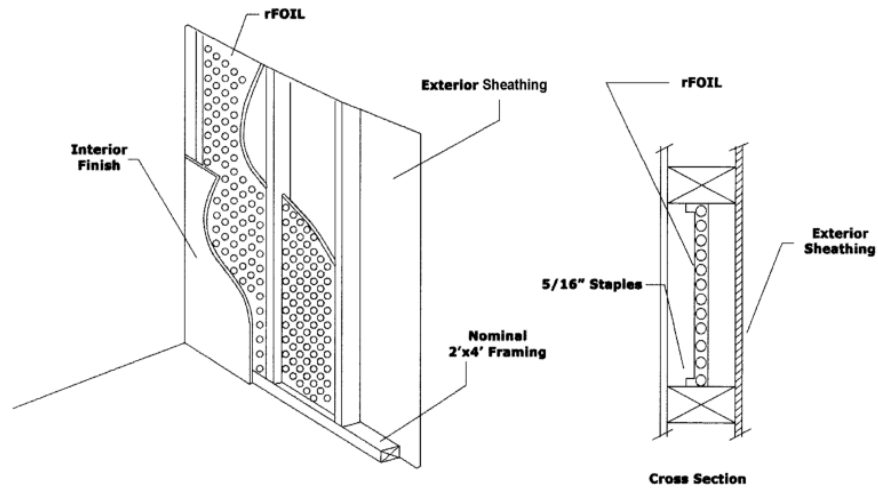

FIGURE 1—WALL CAVITY APPLICATION
4.1.2.1 Wall Cavity Application: rFOIL™ insulation is placed on the inside of the stud cavity and stapled at the midpoint of the 3¹/₂-inch (89 mm) side of 2-by-4 wood studs spaced at 16 inches (406 mm) on center. The insulation forms two ¹/₈-inch-deep (41.3 mm) air spaces within the cavity. The exterior surface is covered with ¹/₂-inch-thick (12.7 mm) plywood, complying with and attached in accordance with the applicable code. The interior surface is covered with minimum ¹/₂-inch-thick (12.7 mm) gypsum wallboard complying with ASTM C36, attached in accordance with the applicable code. Inside surface-to-surface thermal resistance of the assembly is noted in Table 1 of this report. Thermal resistance of the insulated cavity described in this section is noted in Table 2 of this report. See Figure 1 of this report for an illustration of the assembly.